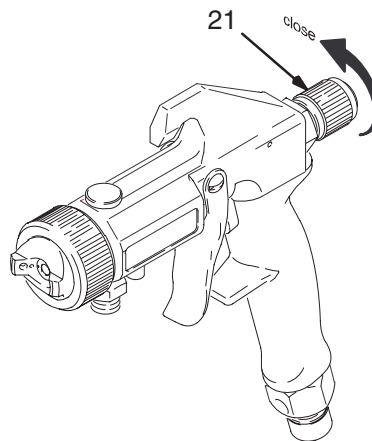

Fig. 8 8072A
3. If further gun fluid adjustment is needed, turn fluid adjustment knob (21) clockwise to reduce volume of fluid output. See Fig. 8.